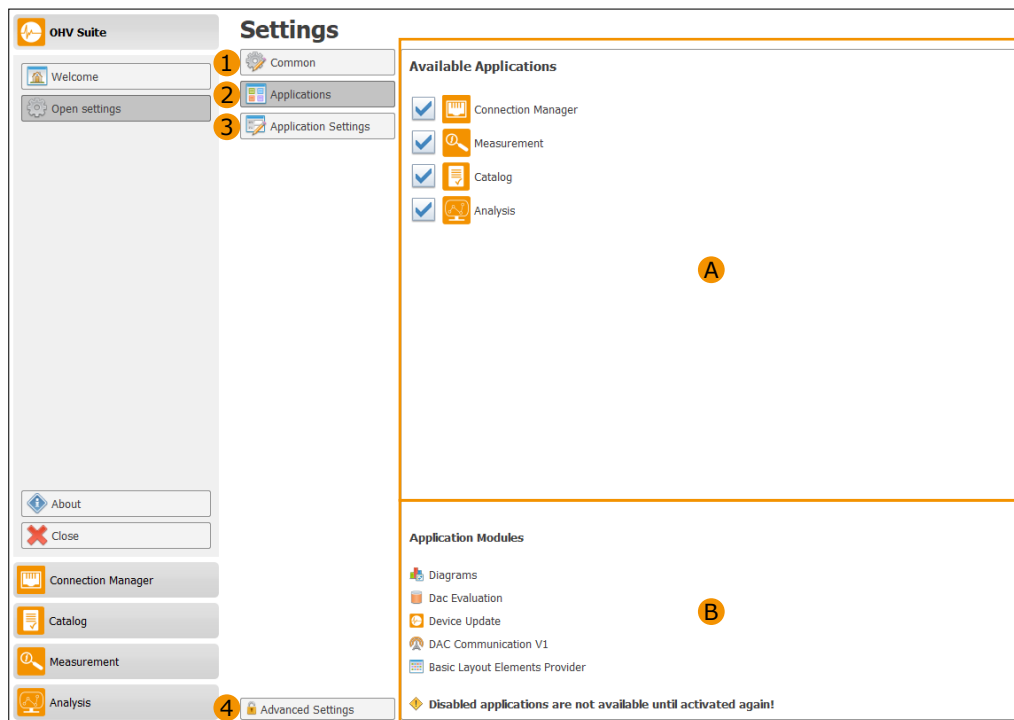

Figure A.4: Applications
This setting can be reached by a click on the button marked with ② inside the settings page. On the top of the applications (cf. A on Figure A.4) all available applications are listed. These applications can be enabled or disabled inside the OHV Suite software.
On the bottom of the applications (cf. B on Figure A.4) all modules are listed which are required to provide different functionality used inside the OHV Suite software. These modules could not be disabled like the applications above.
The button ④ in Figure A.4 shows a window for inserting a password which enables advanced settings. These extended settings are only available for the developers and service technicians of ohv diagnostic GmbH.